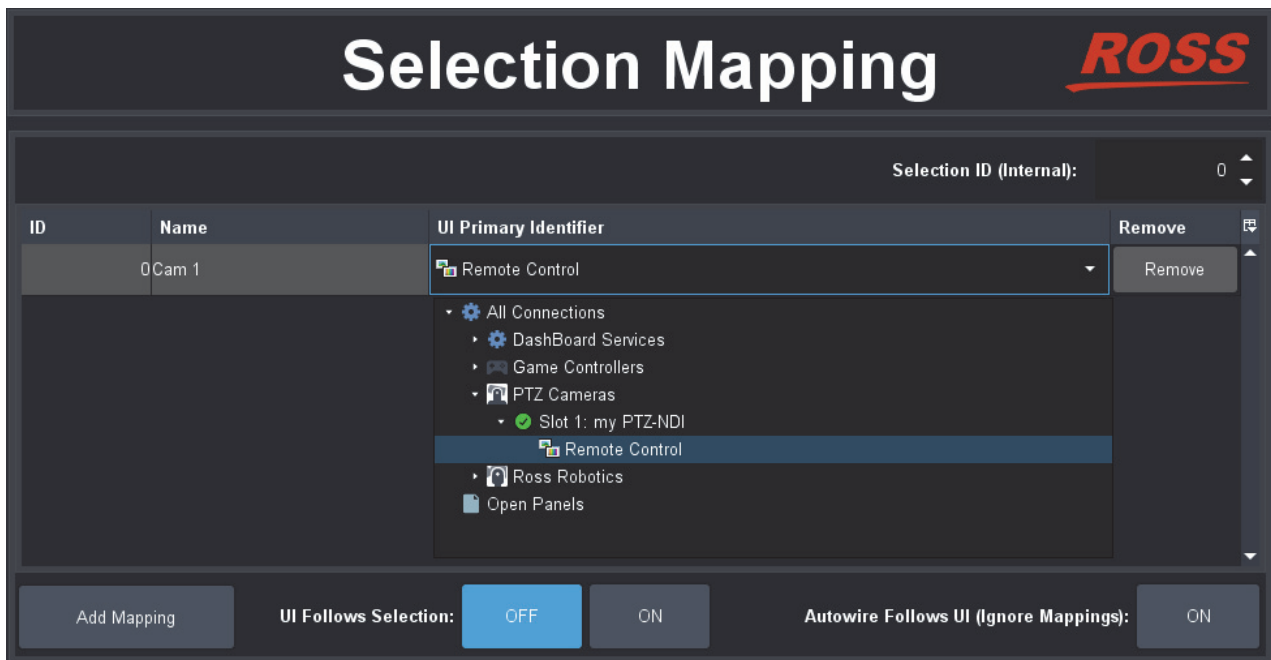

Figure 46 - Selecting a Camera System to be Mapped to a Button with ID 0
- d. In the **UI Primary Identifier** column, navigate to the **Remote Control** node for the PTZ camera or PT head, as shown in Figure 46, and then double-click it.